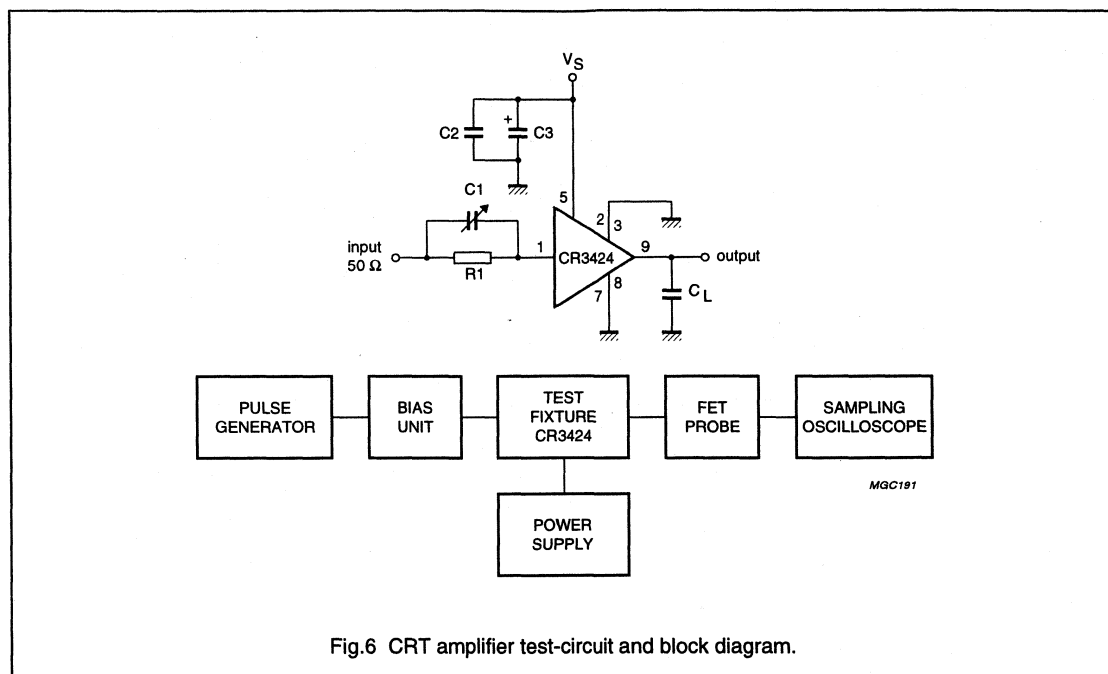

Fig.6 CRT amplifier test-circuit and block diagram.
$V_S = 80\text{ V}$; $T_{mb} = 25\text{ °C}$; $C_L = 10\text{ pF}$; $R_1 = 287\text{ }\Omega$; $C_1 = 60\text{ pF}$; 40 V (p-p) output swing with 40 V DC offset (see Fig.6); unless otherwise specified.
3. Measured V_O/V_I (Fig.2) at input test-circuit (see Fig.6).
4. Measured V_O/V_I (Fig.3) at input module (see Fig.6).
Components used in test-circuit (see Fig.6)
Equipment used in test-circuit (see Fig.6)